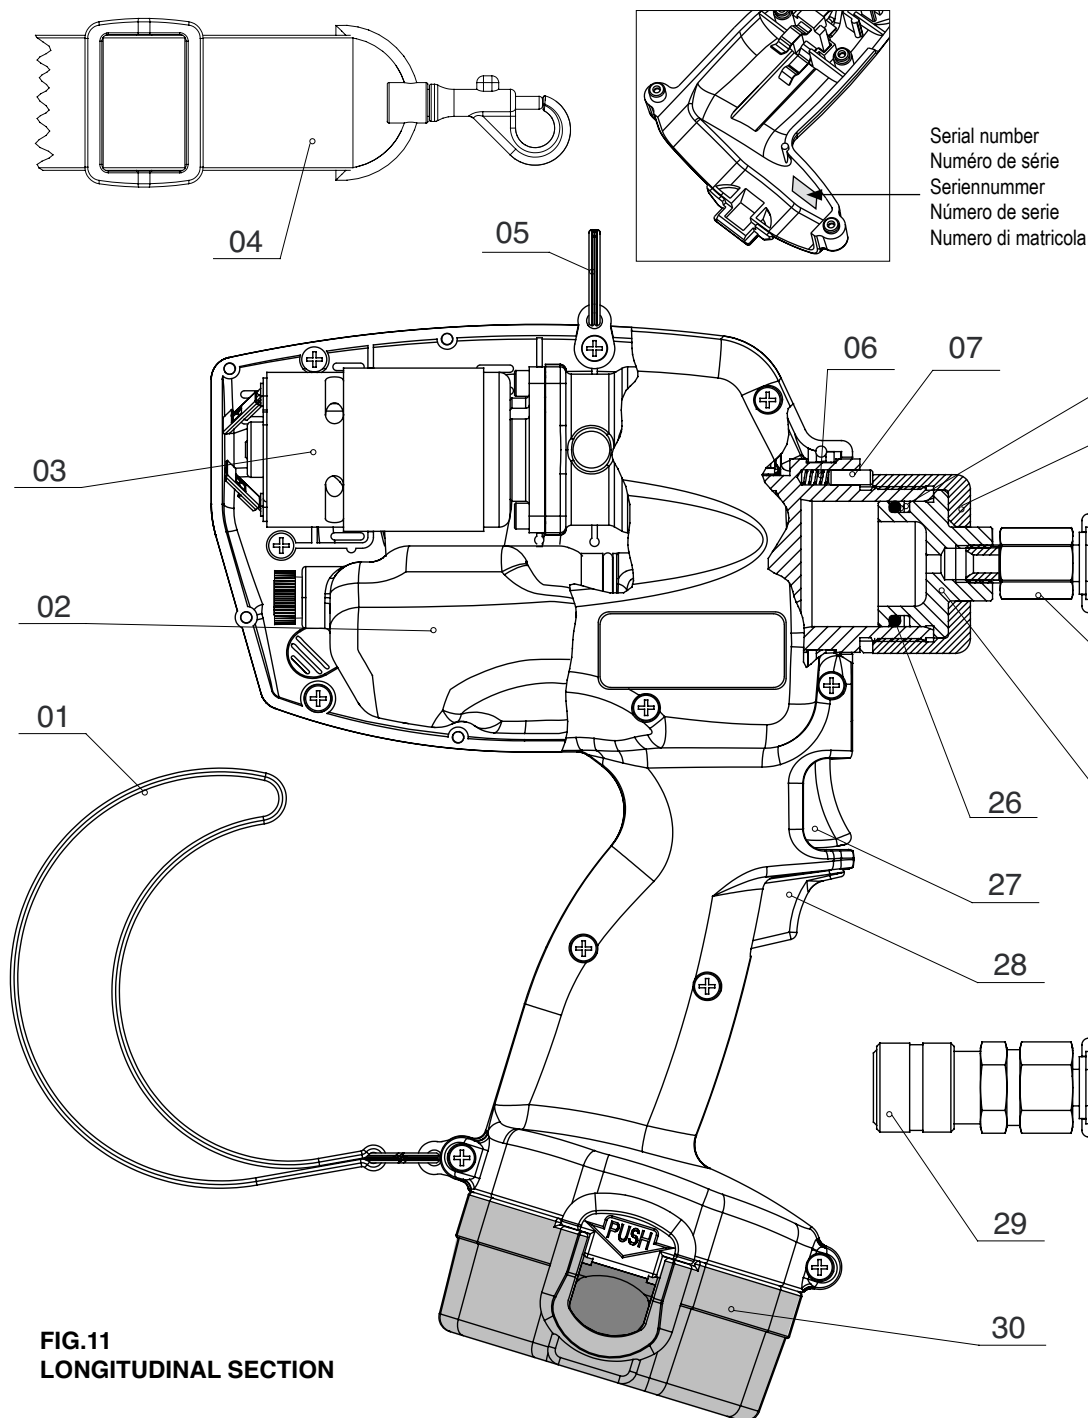

FIG.11
5. PARTS LIST (Ref. to Fig. 11)